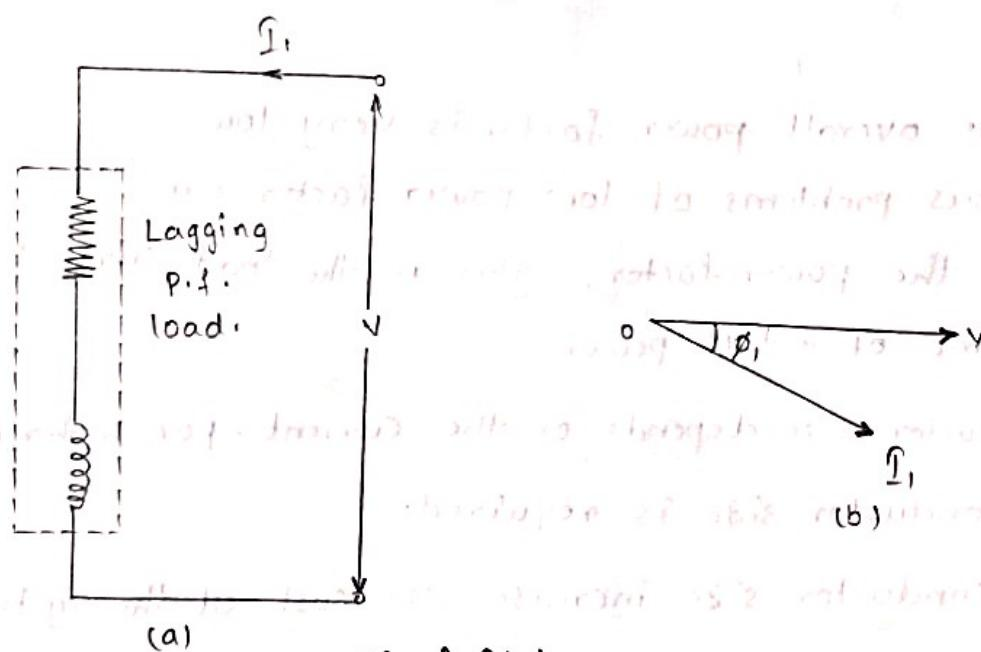

Fig Q.24.1
* Consider a lagging power factor load as shown in the Fig. Q.24.1(a). The corresponding phasor diagram is shown in the Fig. Q.24.1(b).